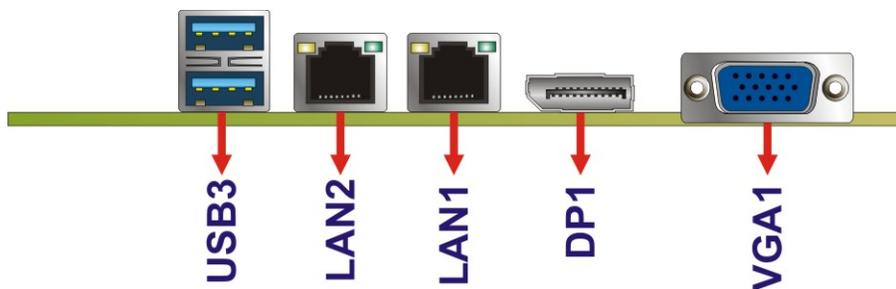

Figure 3-26: External Peripheral Interface Connector
Figure 3-26 shows the WAFER-AL external peripheral interface connector (EPIC) panel. The EPIC panel consists of the following:
CN Location:	See Figure 3-26
- CN Location:** See **Figure 3-26**